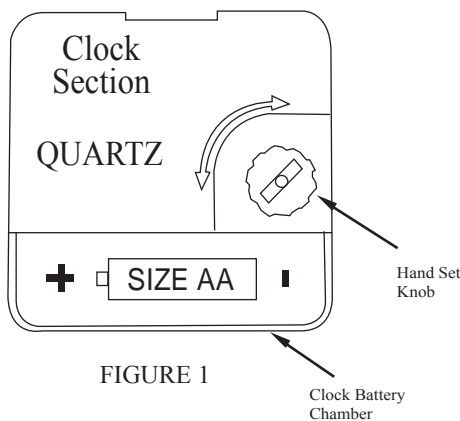

FIGURE 1
1. if it is not at 5:55, turn clock hands to 5:55 by Hand Set Knob(Figure 1). Make sure the hands move **CLOCKWISE ONLY**.
3. Insert 1 x AA Battery into the Clock Battery Chamber (Figure 1).Ensure the positive (+) and negative (-) symbols are aligned as shown.
2. (Figure 1) When turn the clock hands by Hand Set Knob counterclockwise, Do not let minute hand past the 12 o'clock position, otherwise it will damage the timekeeping contacts of the movement, resulting in failures such as no timekeeping or no music.)
3. The hourly timekeeping time is inconsistent with the displayed time. Please set the clock to 5:55 without placing the battery (Figure 1). After placing the battery, manually automatically go to 6:00, and the clock will show time as 6:00 AM.